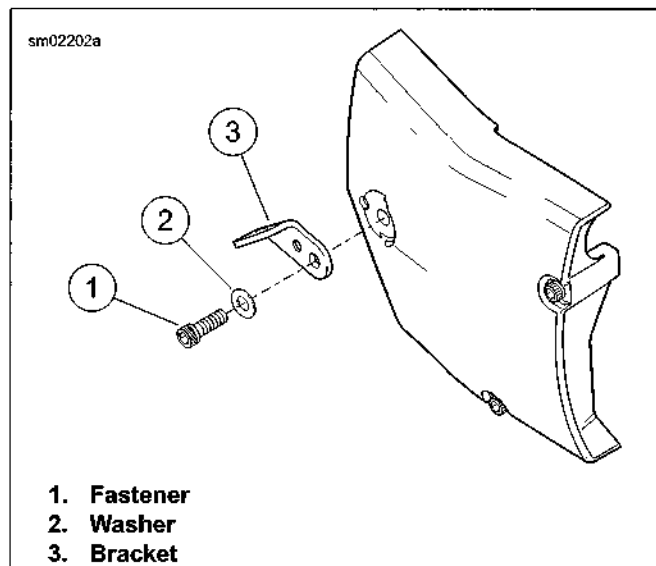

Figure 4-39. Exhaust Pipe Bracket
1. See Figure 4-39. Remove fastener (1), washer (2) and exhaust pipe bracket (3) as necessary.